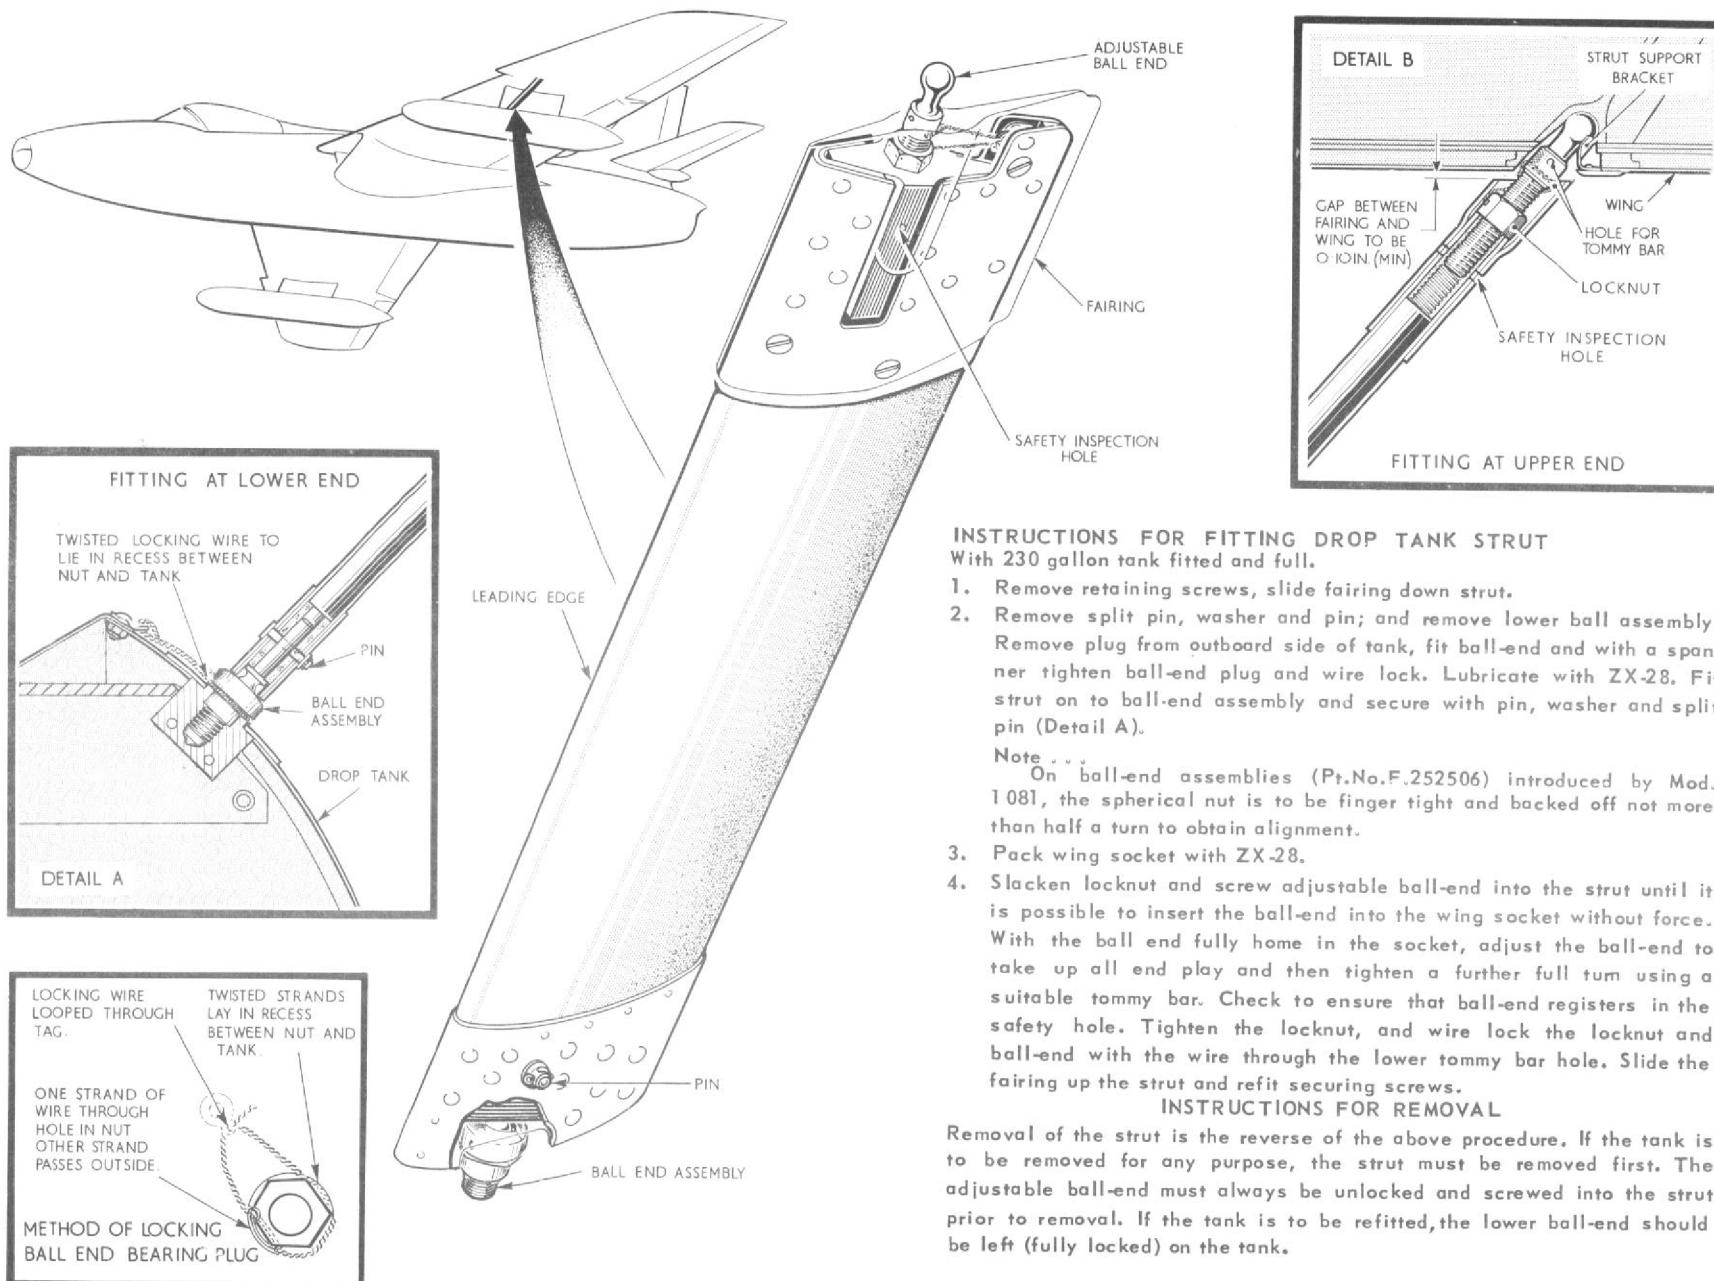

Fig.5 Fitting drop tank strut
- (7) By means of the crutching tool raise the tank until the fore and aft spigots (7) are engaged in the holes provided in the sole plate (11) of the pylon, and the tank adapters (6) are making contact with the fuel and air valves in the valve body (5). Check that the electrical cables from the tank to the plugs are not trapped between the tank and the sole plate.
- (8) Apply the final crutching load by using a torque wrench (Ref. I.L./171) set to 95 ± 2 lb ft, attached to the adapter on the crutching tool.
- (9) Remove the torque wrench and crutching tool, connect socket (13) to the breech cap and replace the access panel in the wing.
- (10) Reconnect the safety breaks (4) and replace the rear doors (3) on all pylons.
- (11) Fit the special bracing strut between the drop tank and the wing as described on fig. 5 after filling the drop tank with fuel.
- (12) Immediately before flight replace the armament safety break.